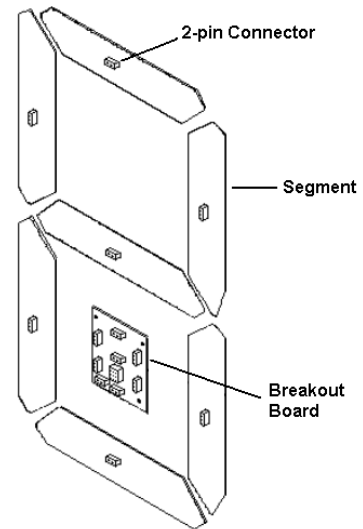

Figure 8: Segmented Digit Panel (rear view)
Some larger Daktronics digits are comprised of individual segments (see **Figure 8**). The digit segment circuit board, the platform for the LEDs, is mounted to the back of the digit panel. *Do not attempt to remove individual LEDs.* In the case of a malfunctioning LED or segment, replace the entire digit segment panel. Refer to **Drawing A-155644**.
2. Disconnect all of the 2-pin and 9-pin power/signal connectors from the back of the breakout board. Release the connectors by squeezing together the locking tabs as you pull the connector free. Refer to **Figure 8**.